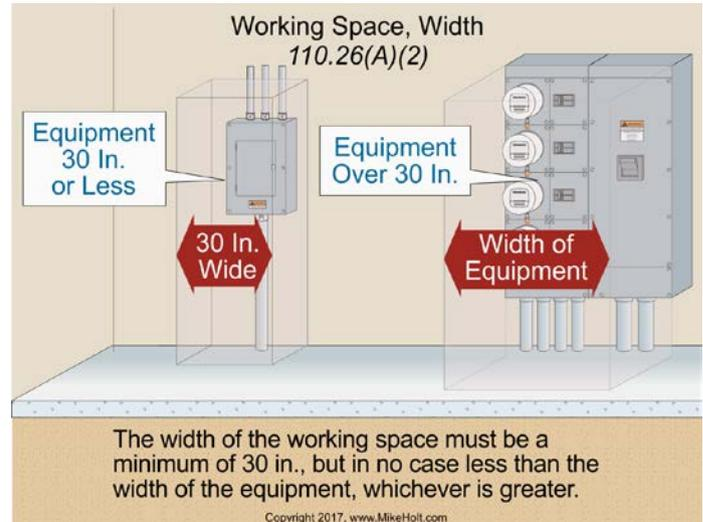

Figure 110-32
**(2) Width of Working Space.** The width of the working space must be a minimum of 30 in., but in no case less than the width of the equipment. Figure 110-32